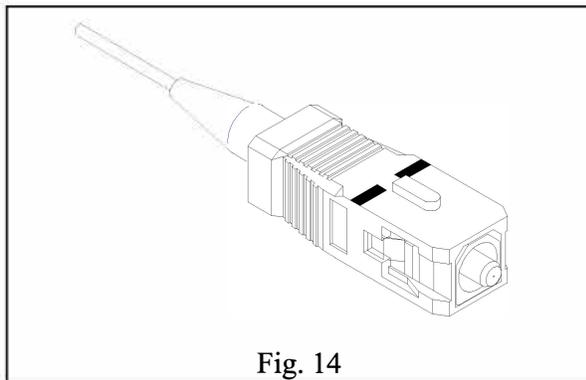

Fig. 14
Step 14 Pull the coupling device over the front outer shell and make sure snaps in place. See Fig. 14.